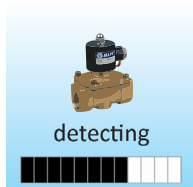

Figure 5
Step 3: Make sure your UV controller is unplugged from the power source. Once all these connections have been made, affix the male IEP plug of the solenoid module cable into the IEP port on the controller (see Fig. 5), or any other available IEP port such as the UV sensor, 4-20 mA module or remote alarm module. It does not matter which IEP port any module is attached to, as long as they are attached.